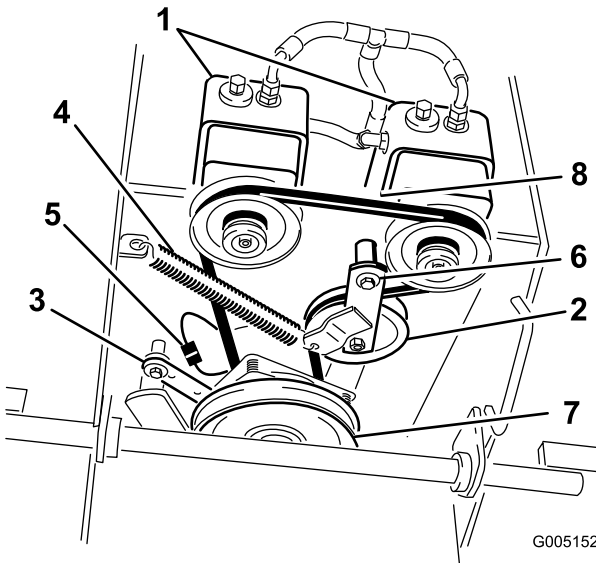

Figure 63
6. Disconnect the clutch retainer from the engine deck (Figure 63).
7. Unhook the idler spring from the frame (Figure 63).
9. Install the idler spring between idler arm and frame bracket (Figure 63).
10. Install the clutch retainer to the engine deck (Figure 63).